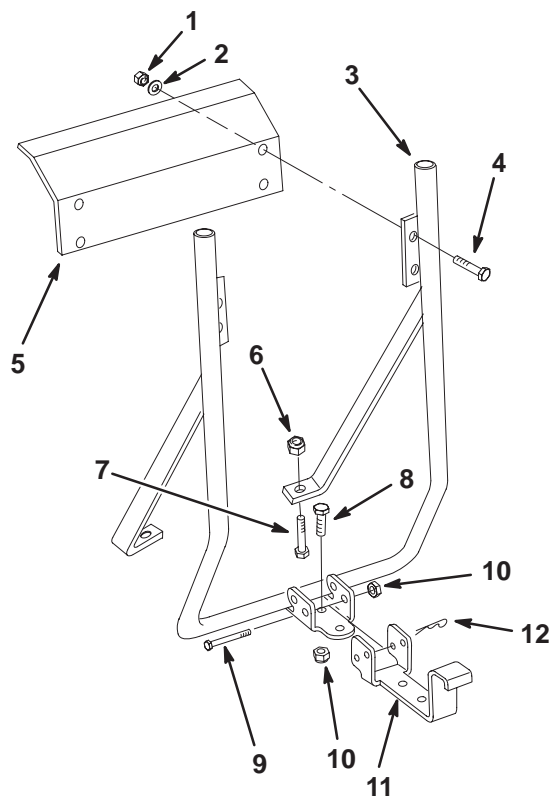

Figure 13
1. Assemble the support bracket into the bagger mount with a 1/2"-13 x 4" (102 mm) bolt and locknut (Fig. 13).
2. Assemble the heat shield to the bagger mount with four (4) 5/16"-18 x 5/8" (16 mm) bolts, 11/32" (9 mm) flat washers and locknuts (Fig. 13).
3. Install the bagger mount to the tractor frame using a 1/2"-13 x 1" (25 mm) bolt and locknut through the rear hitch, and two (2) 3/8"-16 x 2-1/4" (57 mm) bolts and locknuts at the frame cross member (Fig. 13).
4. Lock the support bracket in the storage or operating position with the hairpin cotter (Fig. 13).